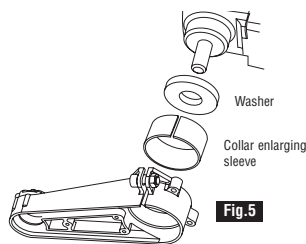

Fig.5
Some angle grinders may require a collar enlarging sleeve (MIN015) to securely fit the collar section to the grinder collar ①. (see fig.5)